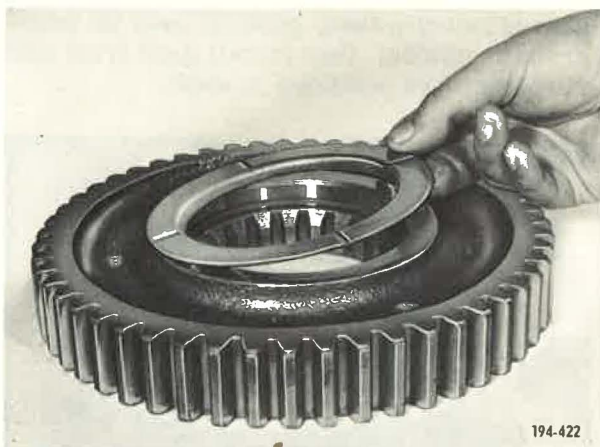

Figure 24. Installing Gear Thrust Washer on Gear
6. Apply a light coat of grease to thrust surface of second and first speed gear. Then place thrust washer on front face of gear hub. See Figure 24.